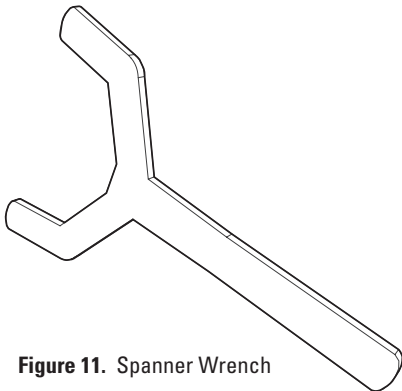
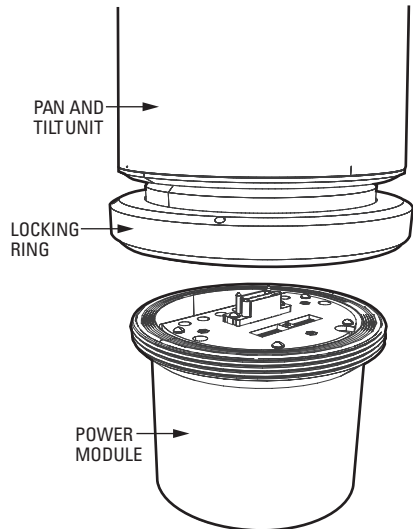

Figure 11. Spanner Wrench
Figure 12. Removal of Pan and Tilt Unit
5. Install the dome drive. Line up the blue (A) and red (B) tabs with the blue (A) and red (B) labels. When pushing the tabs in, insert one side, then the other. Continue pushing on the ends of the tabs until both click into place. Refer to Figure 11.
2. Remove the pan and tilt unit from the power module. Refer to Figure 11 and Figure 12 and do the following:
4. Attach the pan and tilt unit to the power module. Refer to Figure 11 and Figure 12 and to the following: